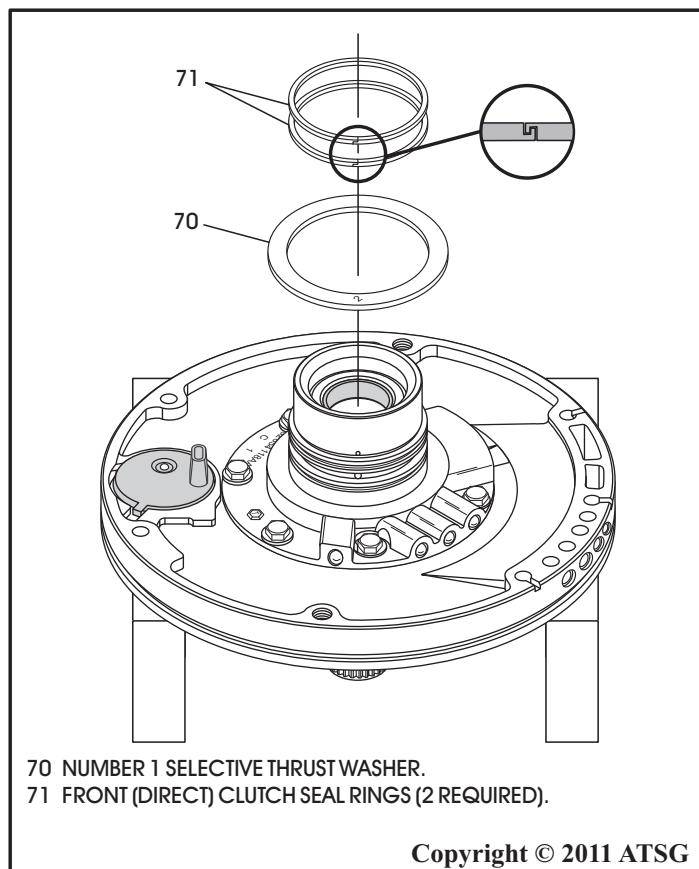

Figure 109
18. Install the number 1 selective thrust washer onto oil pump cover, as shown in Figure 109, retain with Trans-Jel®.
19. Install two new direct clutch sealing rings onto oil pump cover, as shown in Figure 109, and ensure that they are hooked properly and spin freely in their grooves.